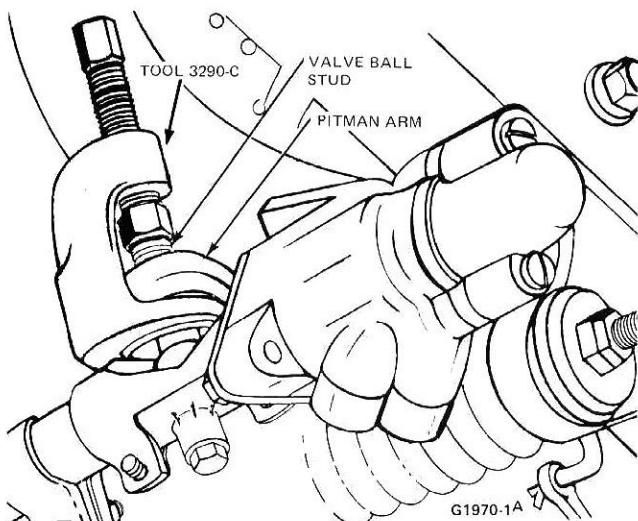

FIG. 3 Removing Control Valve Ball Stud
5. Remove the cotter pin and the control valve ball stud nut. Remove the ball stud from the sector shaft arm (Pitman Arm). **When removing the ball stud from the sector shaft arm, it is necessary to use the control valve ball stud removing tool, No. 3290-C (Fig. 3). Use of other tools will result in damage to the control valve assembly.**